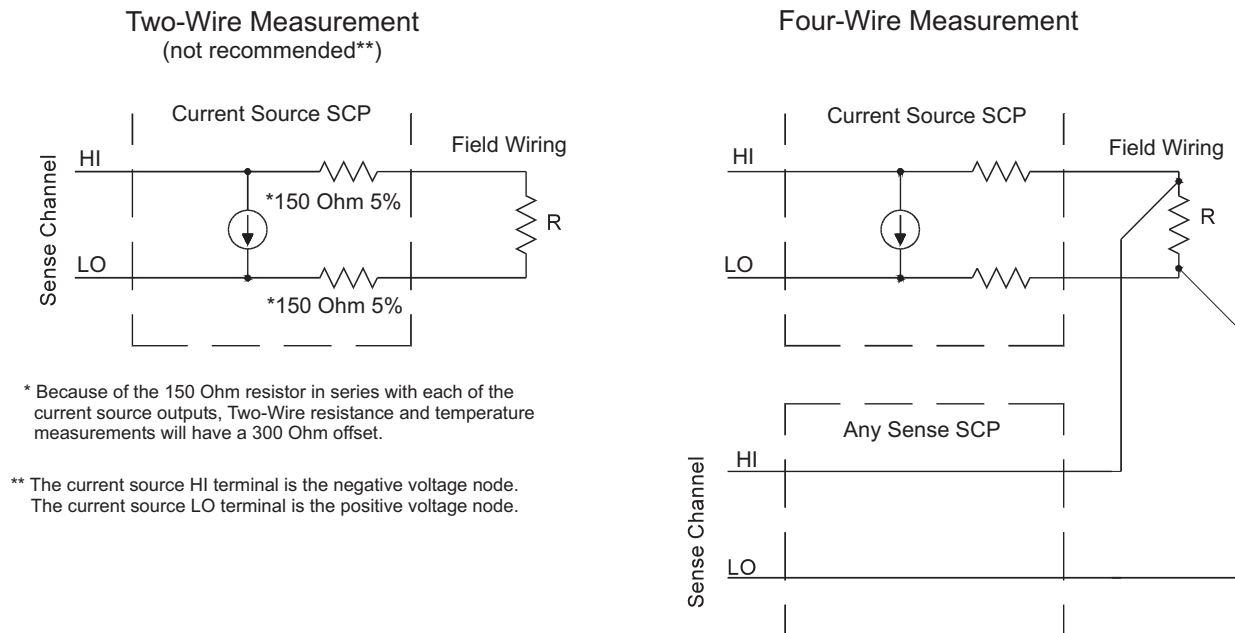

Figure 3-6: Resistance Measurement Sensing
Resistance measurements assume that there is at least one Current Source SCP installed (eight current sources per SCP). See Figure 3-6.
- The <ch_list> parameter specifies which channel(s) to link to the resistance EU conversion. These channels will sense the voltage across the unknown resistance. Each can be a Current Source SCP channel (a two-wire resistance measurement) or a sense channel separate from the Current Source SCP channel (a four-wire resistance measurement). See figure 3-6 for diagrams of these measurement connections.
Temperature measurements using resistance type sensors involve all the same considerations as resistance measurements discussed in the previous section. See the discussion of Figure 3-6 in “Linking Resistance Measurements.”